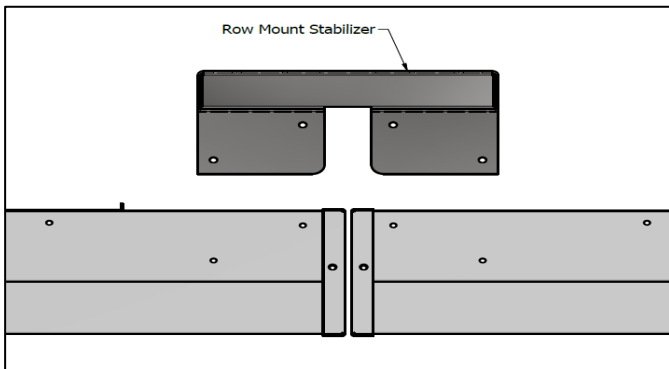

Figure 6
- Mount the stabilizer brackets into the ceiling at appropriate distances. Now carefully remove the mating row mount luminaires (with connectors coming out from the end) from the box. Position it as shown in Figure 6.